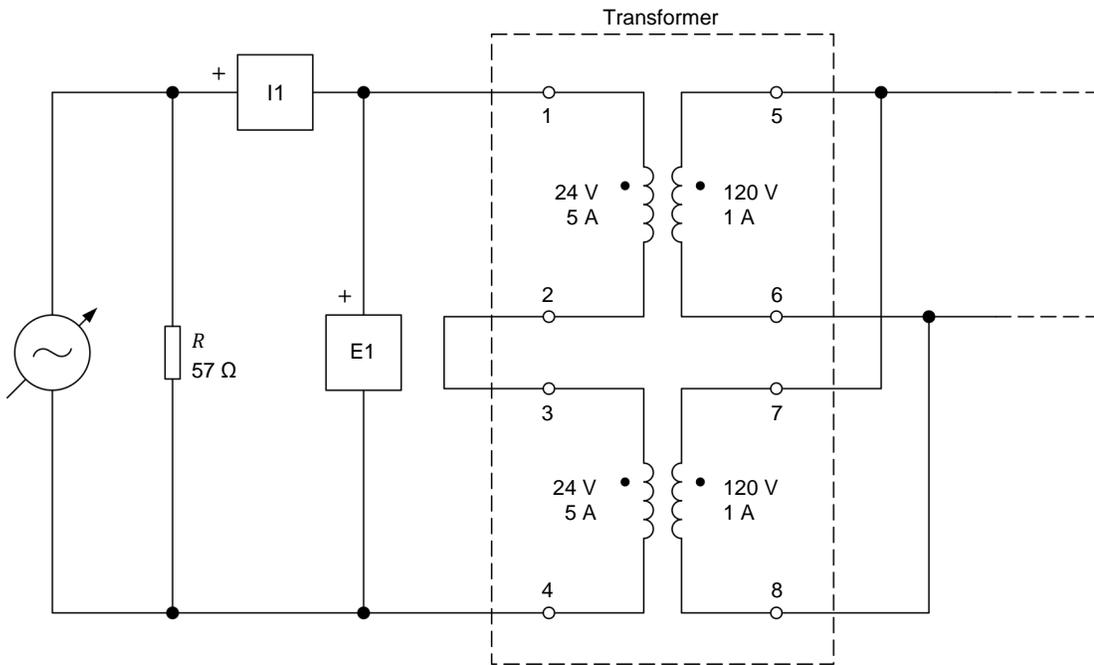

Figure 30. Step-up transformer operating without load.
10. Connect the equipment as shown in Figure 30. In this circuit, the two 24 V primary windings of the **Transformer** module are connected in series to form a primary winding rated 48 V and 5 A. Also, the two 120 V secondary windings are connected in parallel to form a secondary winding rated 120 V and 2 A.
The resistive load in the circuit of Figure 30 is used to improve the appearance of the voltage waveforms. Since the resistive load is connected in parallel with the ac power source, it has no effect on the measured voltages.